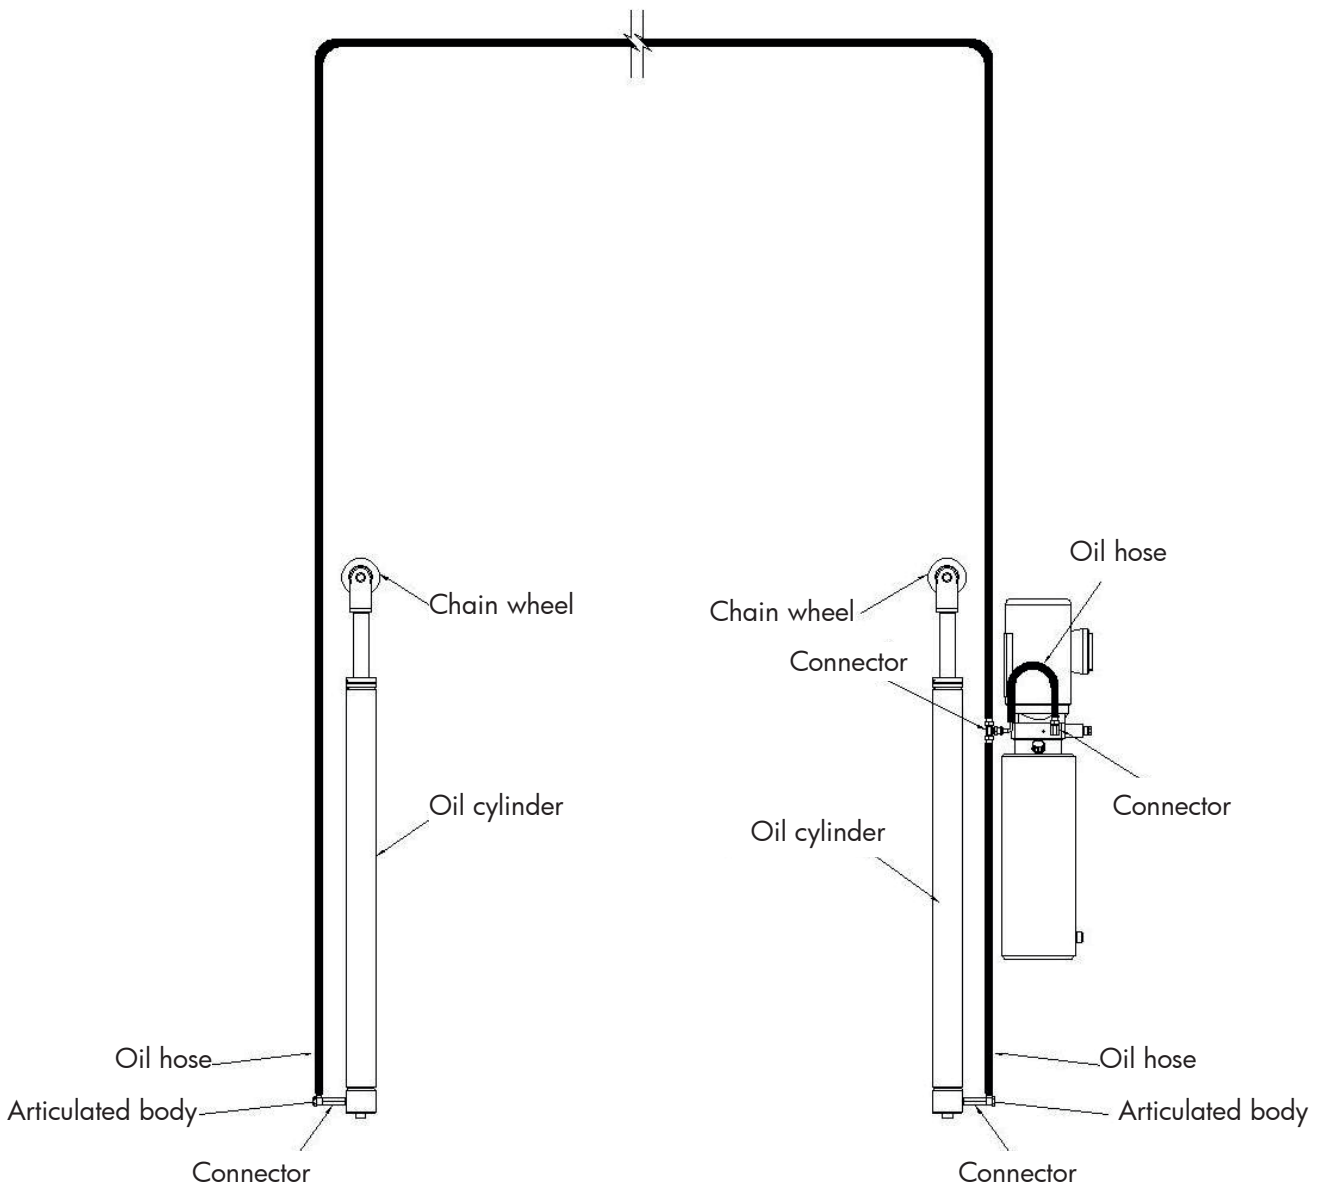

Fig. 9
- 8. Connect the oil hoses as per the following diagram (**fig. 9**).